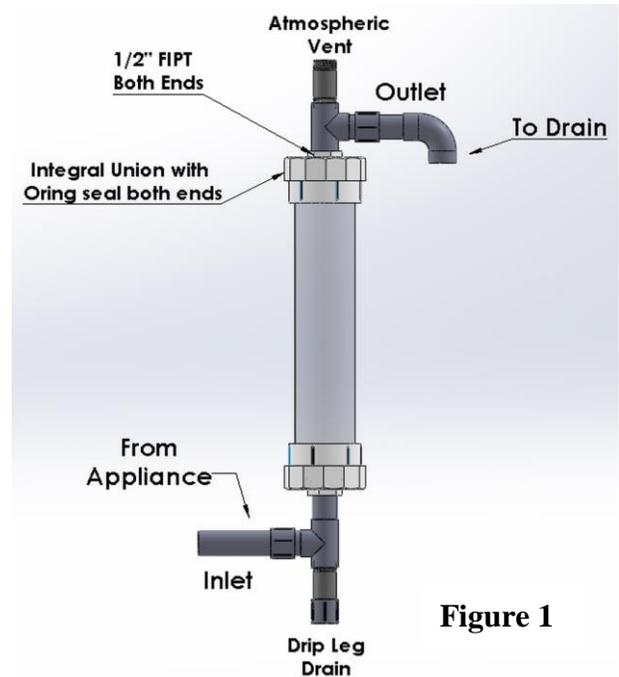

Figure 1
1. It is recommended that Skidmore condensate neutralizers be installed as close as possible to the outlet of the gas trap. **Refer to Fig. 1 for proper piping layout.**